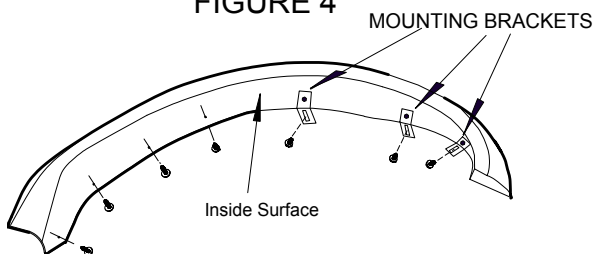
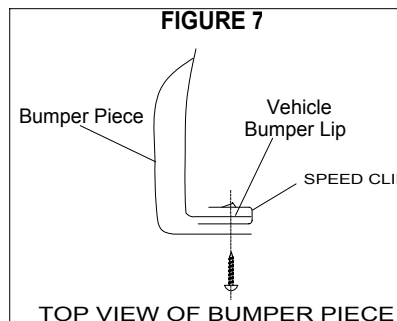

FIGURE 5
FIGURE 8
- (E) Apply a black tab to marked location on bumper, keeping the edge of tab even with the bumper lip. **See Figure 8.**
- (F) Slide a silver mini clamp over tab and bumper lip. **See Figure 8.**
- (G) Hold bumper piece in place and start the screws in the speed clips, keeping the screws loose.
- (H) Insure that the bumper piece lip is aligned with the inside bumper lip, and is even with the top of the bumper.
- (I) Tighten the three speed clips.
- (J) Start and tighten the #10 screw in the silver mini clamp at the bottom.
- (K) Adjust the flare to match the bumper piece and tighten the last screw. **(See Step 3: C)**
- (A) Remove and save 2 screws holding mud flap to vehicle.
- (B) If vehicle has no chrome strips, insert the supplied plastic grommets into holes in wheel well lip.
- (C) Secure flare to fender using 2 screws removed in last step and the screws supplied in kit. **See Figure 5.**